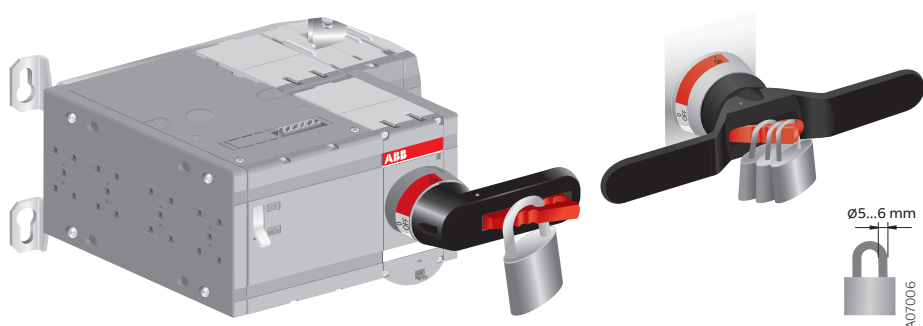

Figure 15.8 Locking the manual operation
2. Pull out the clip from the handle and place the padlock on the handle; see Figure 15.8.